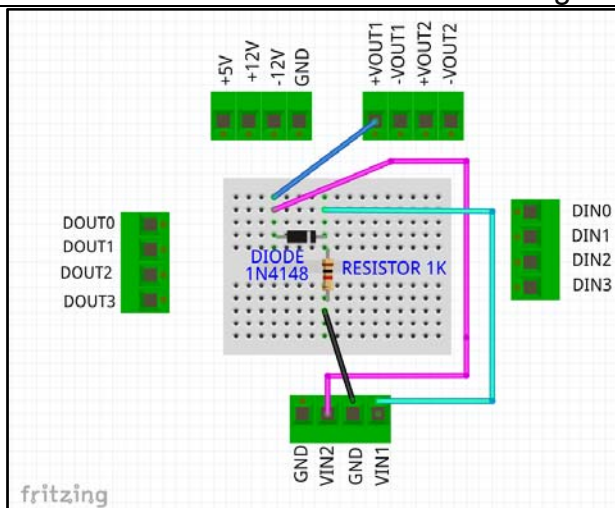
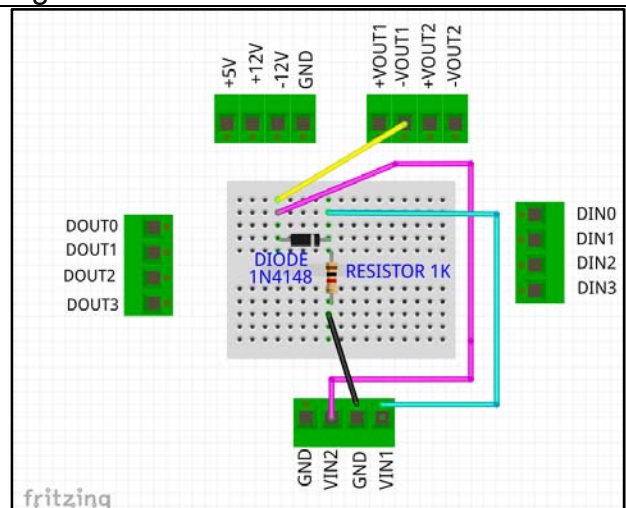

Fig 10. Test Setup (Positive Values)
Fig 11. Test Setup (Negative Values)
3. Using the GUI Feed the simulated Sin-Wave test voltages: 0.0, 2.32, 4.5, 6.36, 7.79, 8.69, 9.0, 8.69, 7.79, 6.36, 4.5, 2.32, 0.00, -2.32, -4.5, -6.36, -7.79, -8.69, -9.0, -8.69, -7.79, -6.36, -4.5, -2.32, and 0.00. Use Vout1 and Test Setup (Fig 10) for positive voltages and -Vout1 (Fig 11) for negative voltages. Save each set of values.